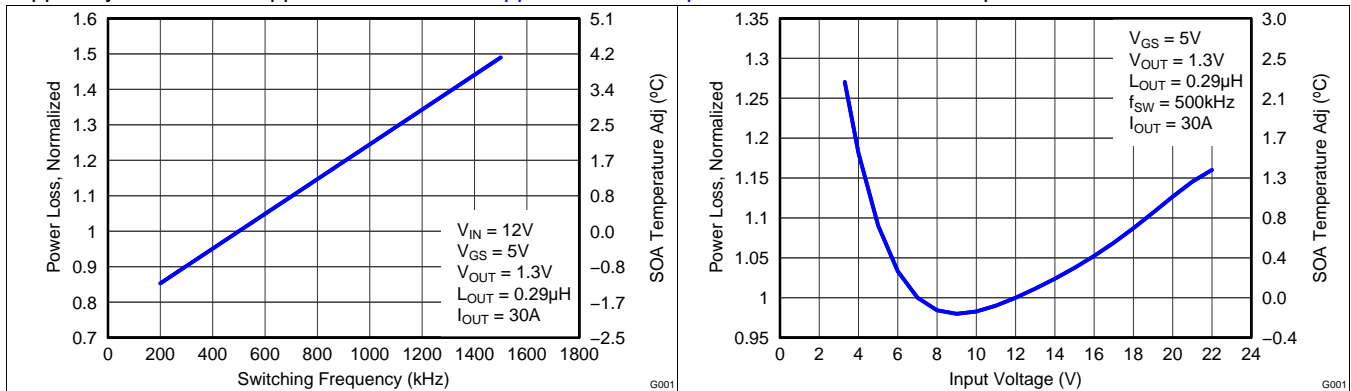

Figure 5. Normalized Power Loss vs Switching Frequency
- Normalized Power Loss for switching frequency  $\approx 1.15$  (Figure 5)
- SOA adjustment for switching frequency  $\approx 1.2^\circ\text{C}$  (Figure 5)